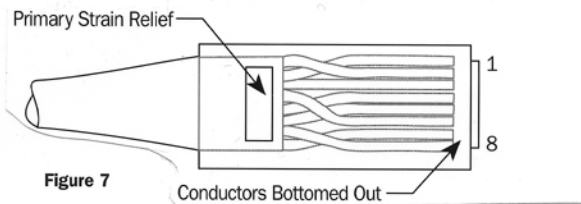

Figure 7
- Insert the plug over the prepared conductors and the flat jacketed portion of the cable. The tips of the conductors must be "bottomed-out" in the front of the plug and the flattened portion of the jacket must extend beyond the primary strain relief (Figure 7).